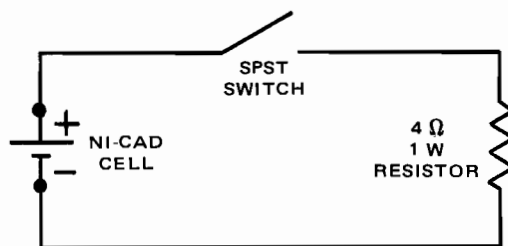

Fig. 3-4-1
3. Prepare cell discharge circuit of Fig. 3-4-1. Turn on switch to discharge cell. Discharge cell for approximately 15 minutes. Indicate discharge current path by drawing arrows on circuit diagram.